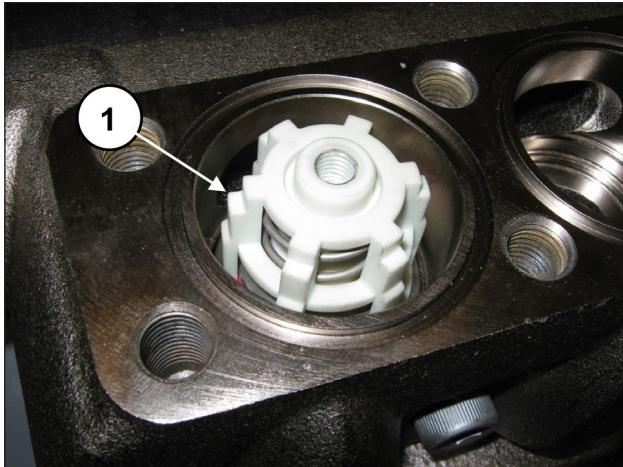

Fig. 159
The complete valve unit must be driven fully home and should appear as shown in pos. ①, Fig. 159.